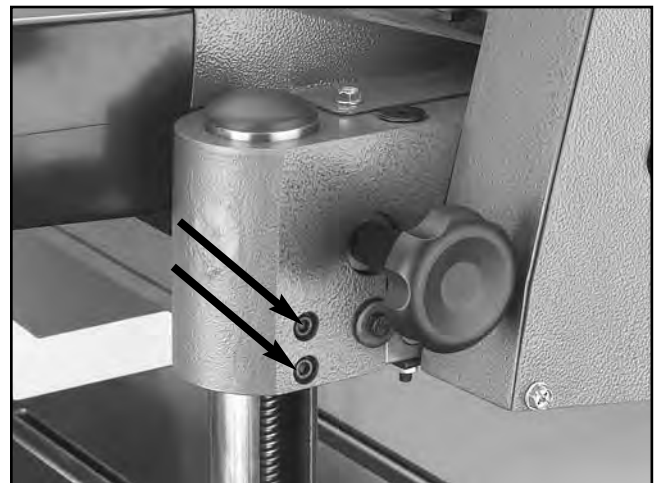

Figure 29. Cap screws for column adjustment.
7. Locate the two cap screws in the table casting for each of the columns. **See Figure 29.** Loosen both sets of cap screws for each column on the side you wish to adjust.